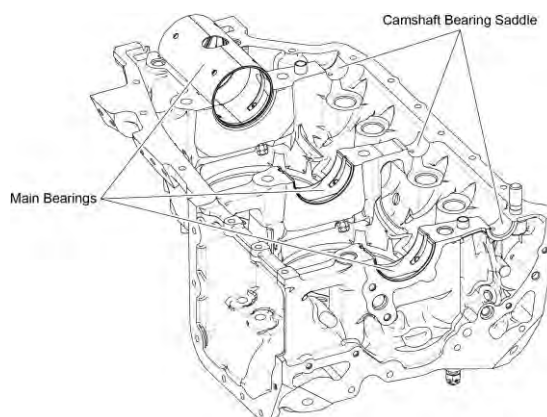

Figure 62
- (1) Apply engine oil mixture to the camshaft bearing saddles and main bearings on each crankcase half (Figure 62).
- (2) Put the camshaft in the left crankcase half.